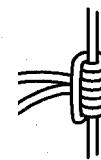

fig. 5a
- Step 3 Tighten the knot around the climbing line (fig. 5a).